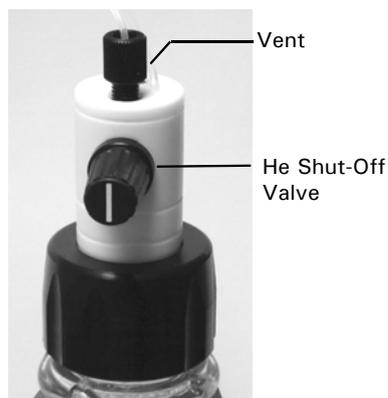

FIGURE 3-6. He Shut-Off Valve
- e) Open the He Shut-off valves by rotating the knob so that the line on the valve is vertical (see FIGURE 3-6) and open the He Regulating Valves for maximum sparging (FIGURE 3-7A). Allow sparging to continue for